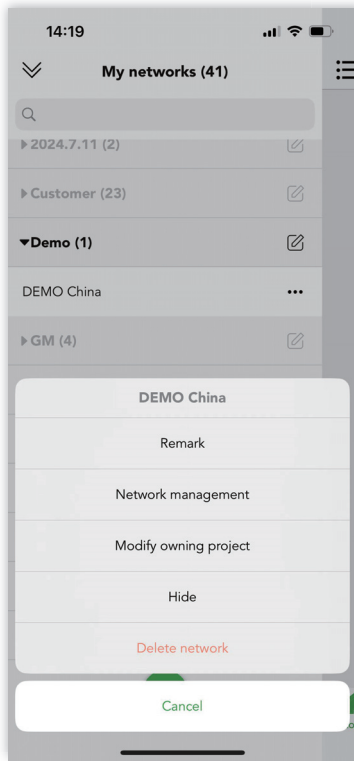

Figure 3.8.1 Network
2. Click **⋮** for network management. (see figure 3.8.1)